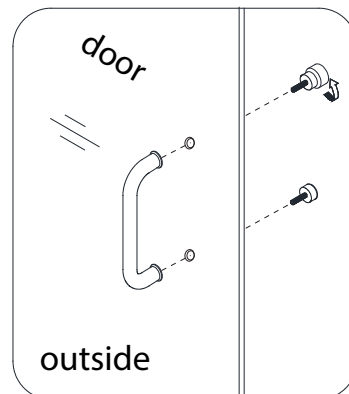

Fig 17
17. Attach the **Handle (#13)** to the **Door Glass (#17)**. (Fig 17)